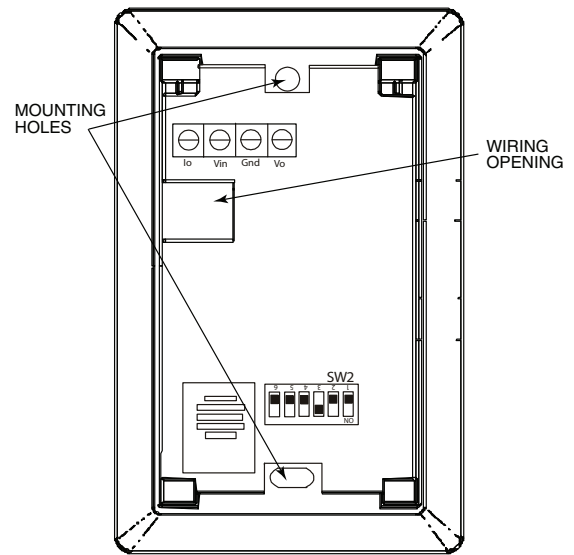

Fig. 56 — Space Relative Humidity Sensor Installation
If the sensor is installed directly on a wall service, install the humidity sensor using 2 screws and 2 hollow wall anchors (field-supplied). Do not over tighten screws. See Fig. 56.
1. At the sensor, remove 4 inches of the jacket from the cable. Strip ¼ inch of insulation from each conductor. Route the cable through the wire clearance opening in the center of the sensor. See Fig. 56.